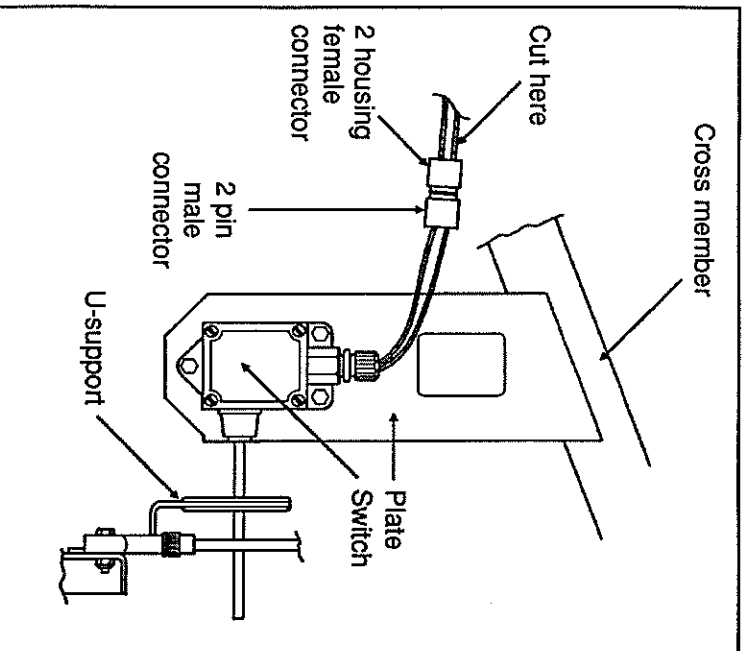

Figure 2 - Installation of the former switch
3. Locate switch installation on the cross member over axle 1 (see fig. 2).